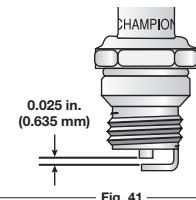

Fig. 41
3. Replace a cracked, fouled or dirty spark plug. Set the air gap at **0.025 in. (0.635 mm)** using a feeler gauge (Fig. 41).